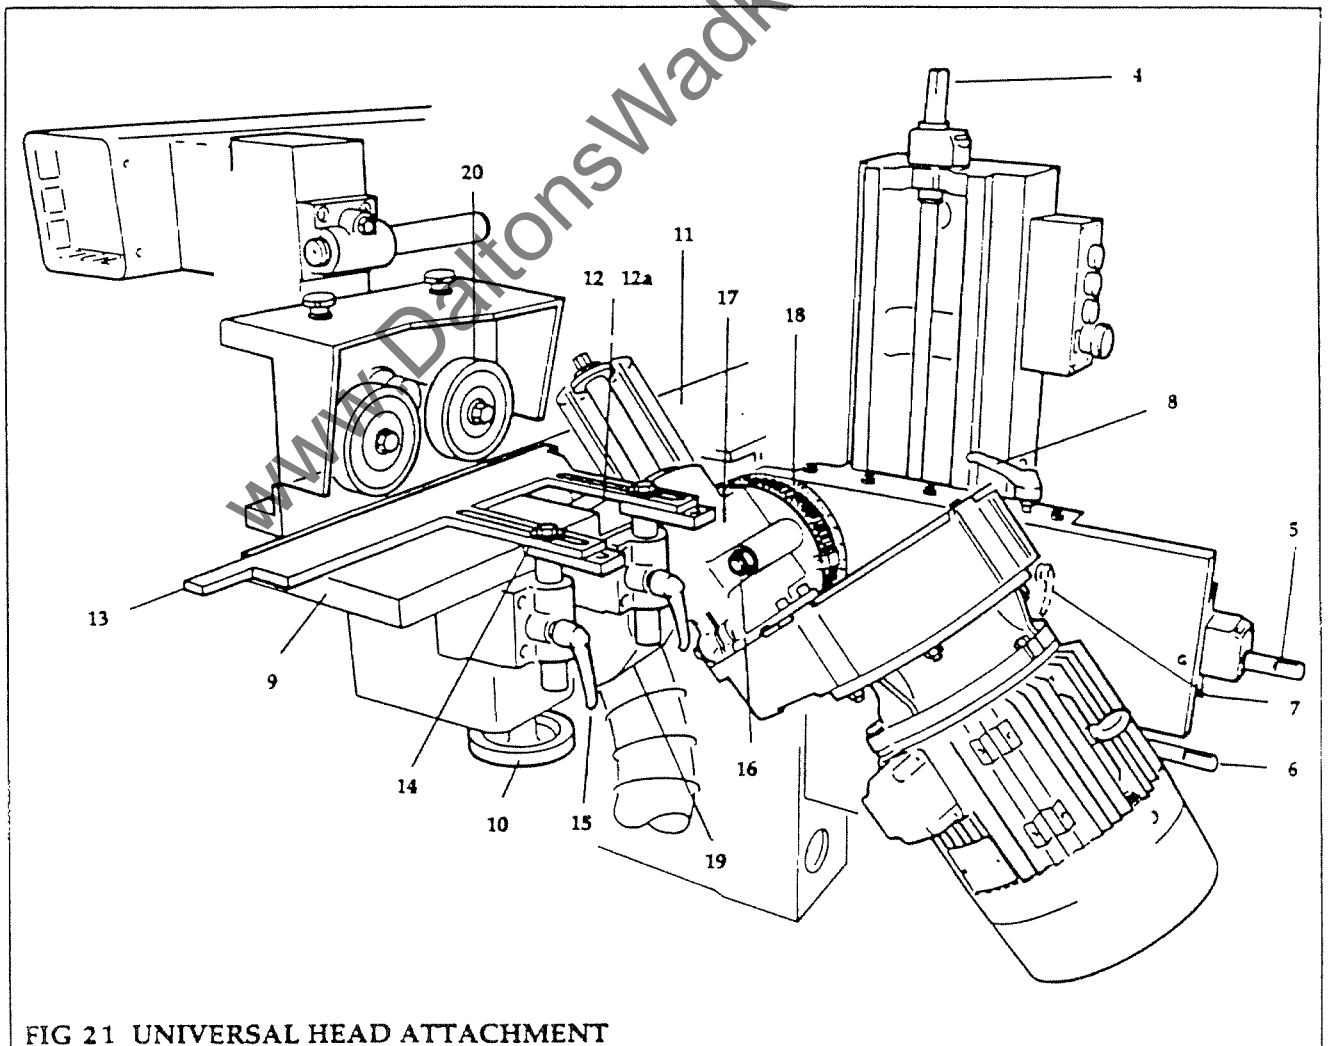

FIG 21 UNIVERSAL HEAD ATTACHMENT
- (4) Pass a test piece through the machine and check the dimensions.
- (5) Check pressure pad adjustment (5) after top head. Raise or lower by use of the starwheel.
- (6) Check the top pressure rollers (6) are in contact with the workpiece and maintain this in contact with the table.
- (7) Set the machine feed speed by rotation of the handwheel (7) on the speed indicator dial (see **Machine Controls**) with the machine running.
**Universal Head Modes** (fig 21, 22, 23)
- (5) Set guide (13) for width and height using setscrews (14) and locking handles (15) (see fig 21)